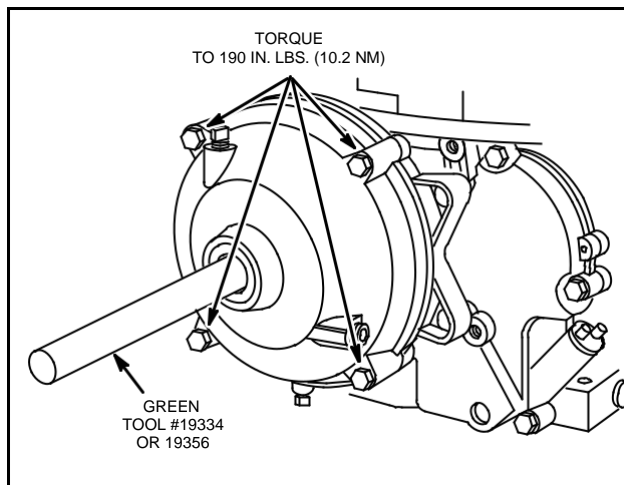

Fig. 142 - INSTALLING GEAR CASE COVER
12. Torque four screws to 190 in. lbs. (21.4 Nm), Fig. 142.